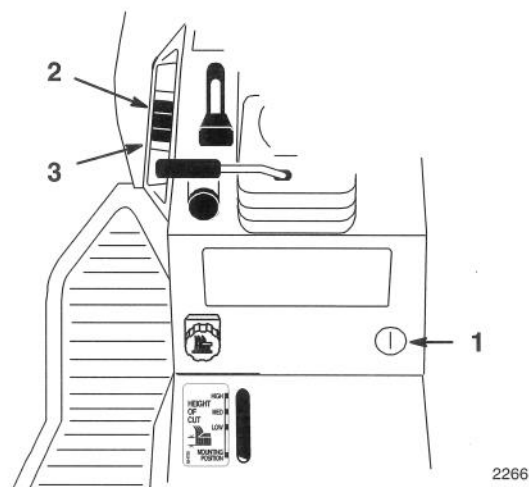

Figure 17
The attachment power lift (optional on some models) (Fig. 17) is used to raise and lower attachments.
1. Turn key to the "ON" or "RUN" position (Fig. 17).
2. Push the lift switch in the "UP" direction to raise the attachment lift (Fig. 17). This will lift and hold the attachment in the up, or raised position.
2. Push the lift switch in the "DOWN" direction to lower the attachment lift (Fig. 17). This will lower the attachment lift.